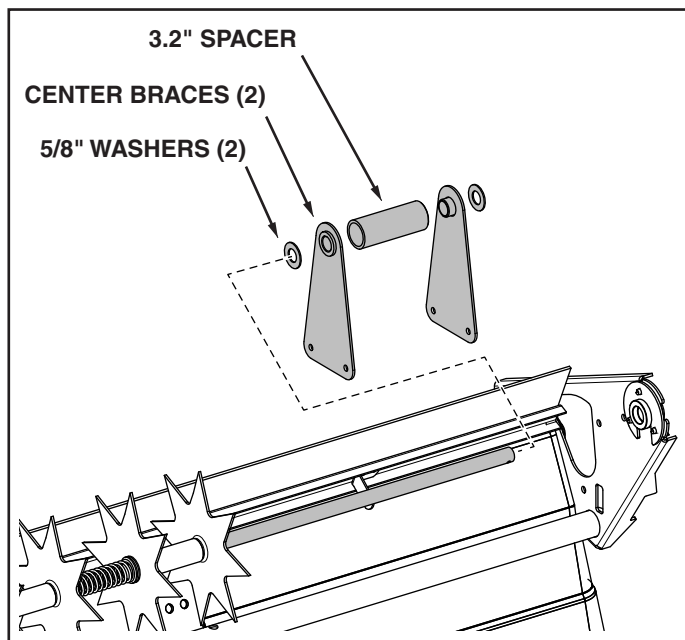

FIGURE 9
11. Assemble two 5/8" washers, the two center braces and the 3.2" spacer onto the axle. The flat side of the braces should face away from the spacer. See figure 9.